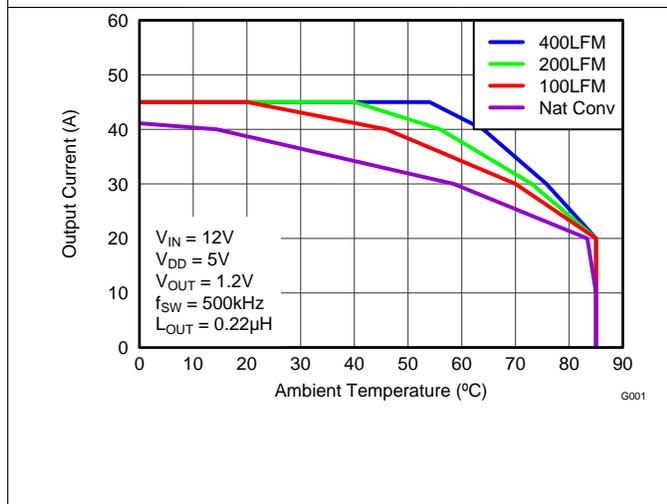
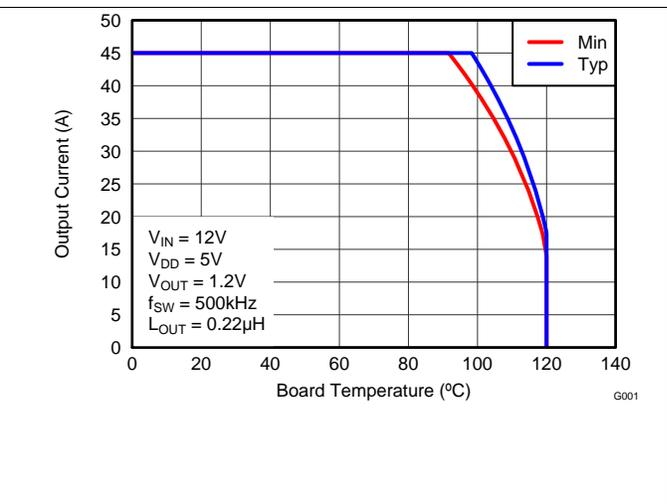

Figure 4. Safe Operating Area (SOA)– PCB Horizontal Mount(1)
Figure 5. Typical Safe Operating Area (SOA) (1)
The SOA curves in the CSD95373AQ5M data sheet give engineers guidance on the temperature boundaries within an operating system by incorporating the thermal resistance and system power loss. Figure 4 and Figure 5 outline the temperature and airflow conditions required for a given load current. The area under the curve dictates the safe operating area. All the curves are based on measurements made on a PCB design with dimensions of 4" (W)  $\times$  3.5" (L)  $\times$  0.062" (T) and 6 copper layers of 1 oz. copper thickness.